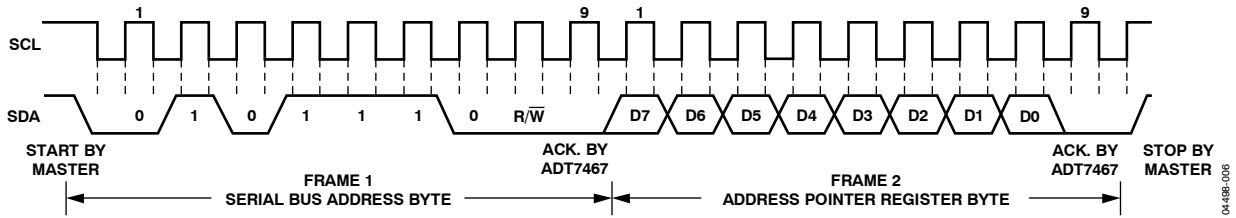
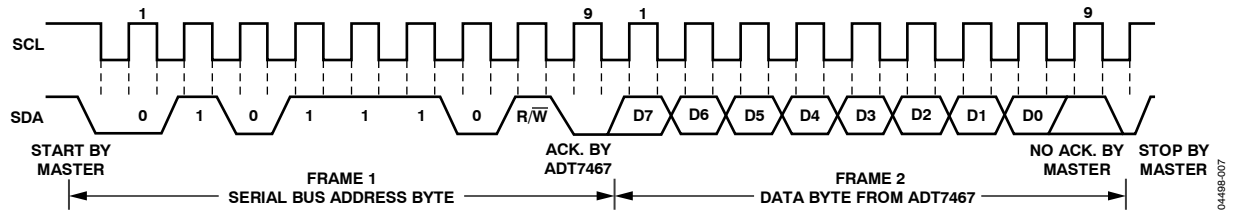

Figure 17. Writing to the Address Pointer Register Only
Figure 18. Reading Data from a Previously Selected Register
- If the address pointer register value of the ADT7467 is unknown or not the desired value, it must be set to the correct value before data can be read from the desired data register. This is achieved by writing a data byte containing the register address to the ADT7467. This is shown in Figure 17. A read operation is then performed consisting of the serial bus address and the R/W bit set to 1, followed by the data byte read from the data register. This is shown in Figure 18.
- If the address pointer register is known to be at the desired address, data can be read from the corresponding data register without first writing to the address pointer register, as shown in Figure 18.